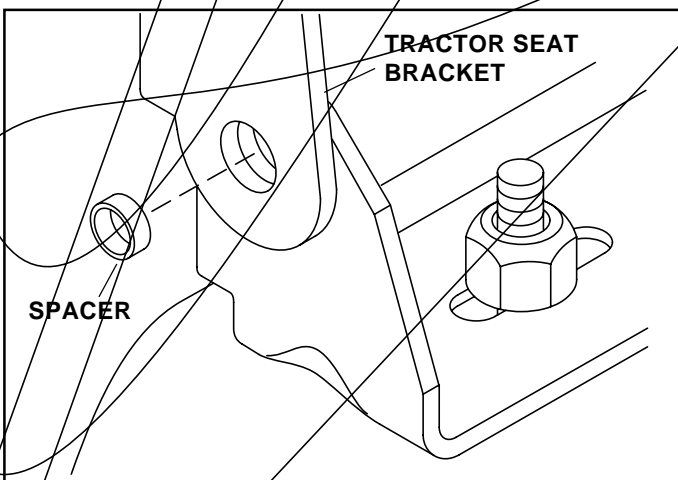

FIGURE 1
- Insert supplied spacer into the seat bracket. See figure 1.